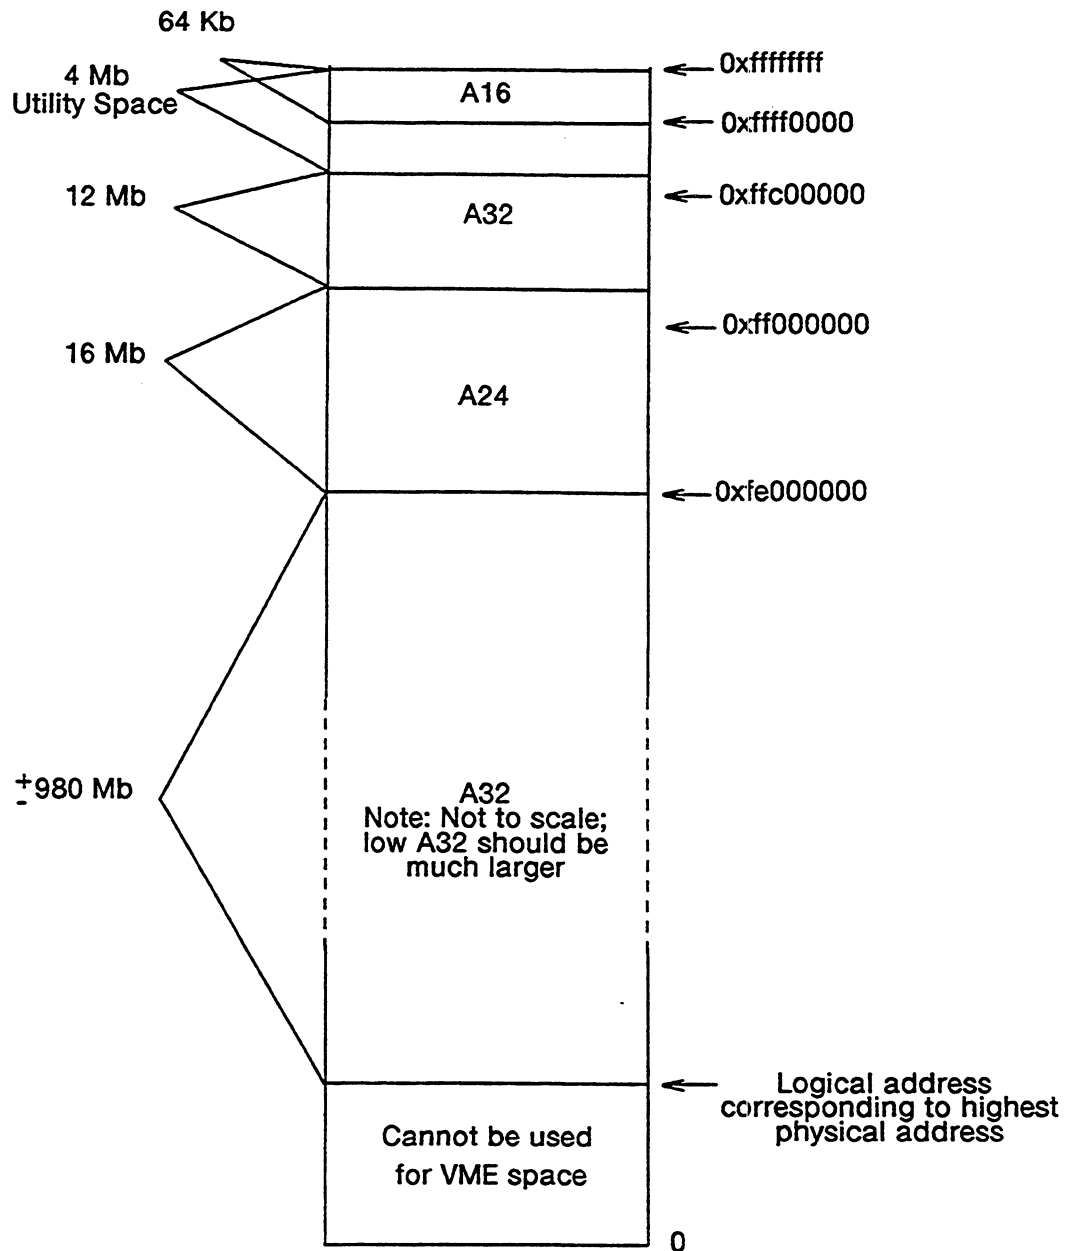

Figure C-1 AViON System Memory-Mapped I/O Addresses and Data Width Areas
- The *a16* and *a32* notes in the Base Address column indicate in which VME data width address space this address falls. Addresses of the *a16*, *a24*, and *a32* data width areas are fixed by the kernel. Figure C-1 shows the location of these areas.